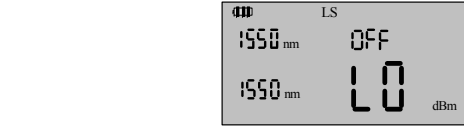

Figure 12 Light Source Mode
Press **Func** to change between light source (LS) and power meter (PM) mode. The unit operating in light source mode is shown in Figure 12.
The unit operating in light source mode is shown in Figure 12. “OFF” indicates that the light source is off. If the light source is on, a power value or modulation frequency will be displayed in this field. Press the **LS On** key to power the light source on, as shown in Figure 13. Even if a compatible fiber (5LT35, 5LT35C:10/125 μm SM fiber, 5LT83: 62.5/125 μm MM fiber) is used, the output power value measured by the power meter may differ from the displayed light source output power.